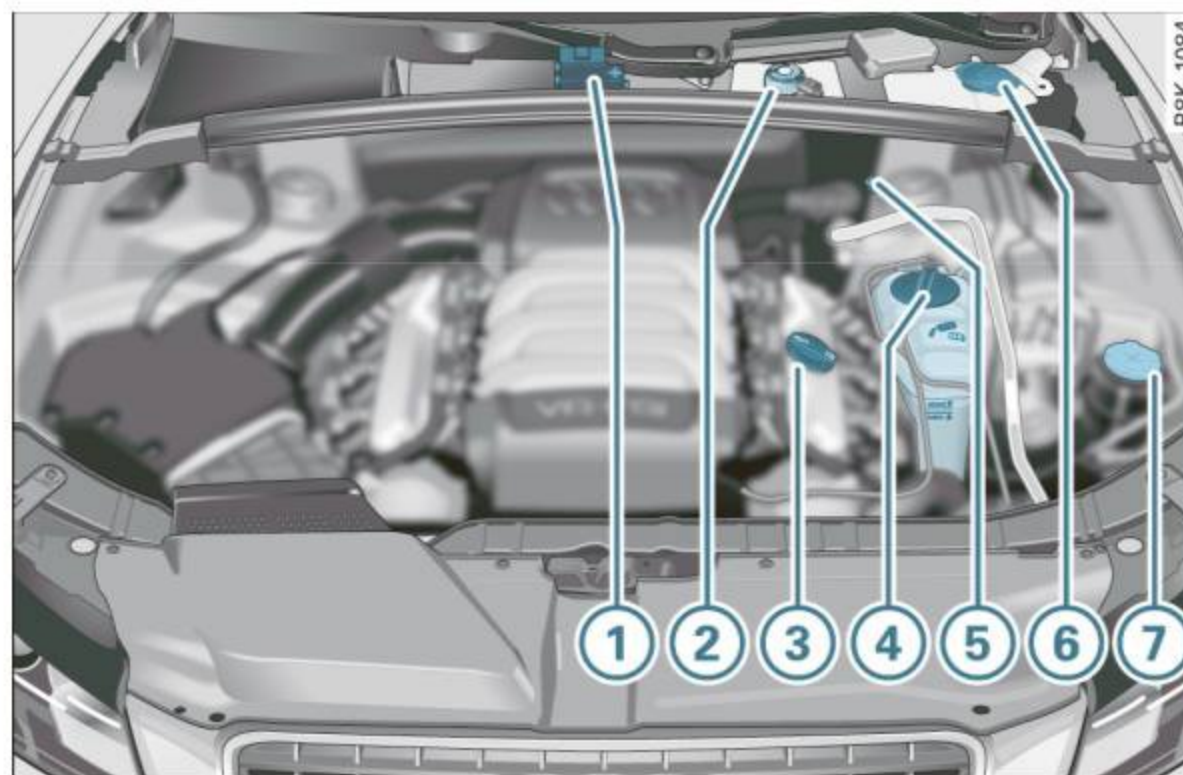

Fig. 205 Typical layout for containers and engine oil filler cap
①	Jump start point (+) under a cover	288, 329
②	Brake fluid reservoir (☉)	284
③	Engine oil filler cap (🛢)	279
④	Coolant expansion tank (🌊)	282
⑤	Jump start point (-) with hex head screw	288, 329 ▶
- ⑥ Windshield/headlight* washer container (🚿) 290
⑦ Power steering reservoir 242
The position of the engine oil filling hole ⇒ fig. 205 (item ③) can differ depending on the engine design.